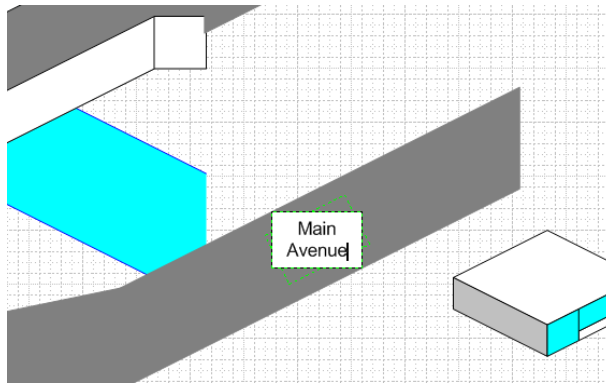

Figure 10 – Adding Text to Shapes
Visio allows users to enhance drawings by adding text. All text in a Visio drawing is contained in a text block (see Figure 10). When moving a shape with text, the text block automatically moves with it.
3. Type **[Main]**, press the **[Enter]** key, and type **[Avenue]** (see Figure 10).